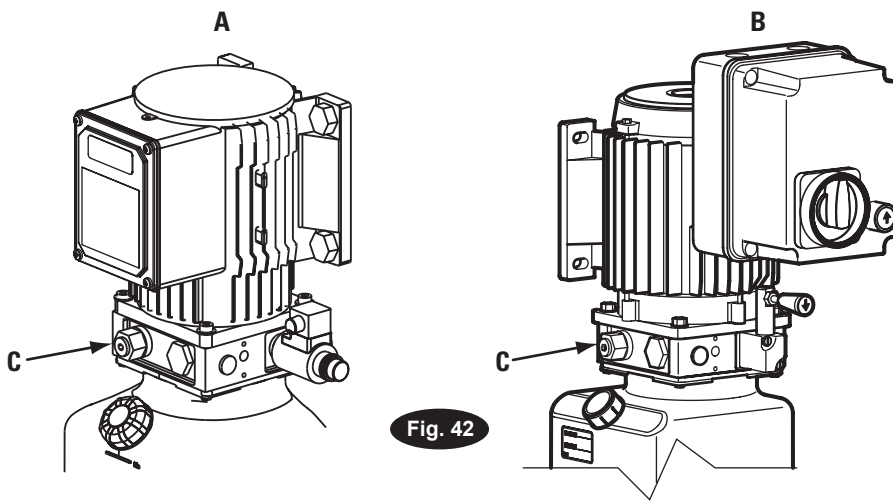

Fig. 42 Detail
42. Check Pressure (All Models): Check hydraulic pressure at indicated location on the power unit, Fig. 42. The maximum relief is not to exceed 20.48N/mm². These valves are nonadjustable. Replace if improper relief valve is in place.